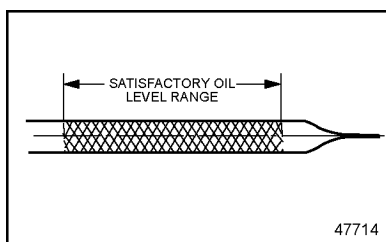

Figure 32 Check Oil Level
7. Add oil as required to bring the level within the *satisfactory* range on the dipstick. See Figure 32.
minutes). Add oil as required to bring the level within the *satisfactory* range on the dipstick. See Figure 32.